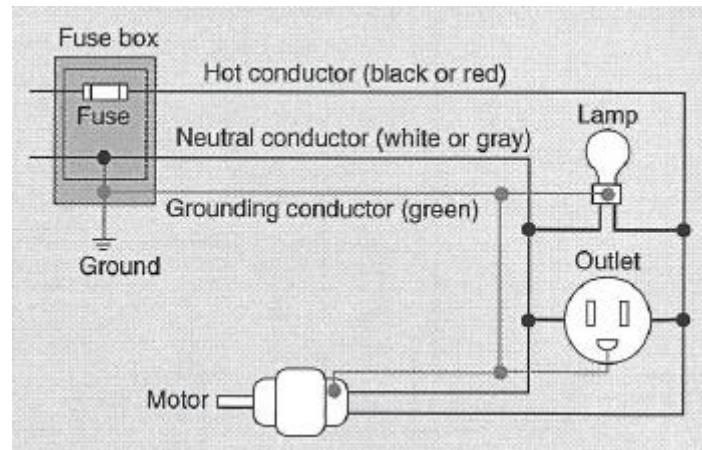

Figure 1.1: Grounded Electric Circuit
- 1-5 Electricity flows through a conducting path in much the same way that water flows through a pipe. This path is called a *circuit*. *Current* is the amount of charge carried by the electrons flowing past a given point in a given time. Energy is required to move the charge through a conductor. The energy that moves the charge comes from a generator or battery. The source does not produce any electrons. It only supplies the energy to move the electrons that are present much the same as pressure supplies the energy in a piping system. As the electrons move through a conductor, they encounter resistance and lose energy. The loss in energy, per unit of charge, is measured in *volts* (V).
- 1-6 In a simple electric circuit, electricity is delivered to a lamp or other device through a wire, often called the *hot wire*, and leaves through a wire that is connected to the ground. These two wires complete the circuit. A third wire, called a *grounding conductor*, connects the metal housing of the device to the ground to prevent it from being energized. Electrical wires are coded by standard colors of their insulation. A hot wire is either black or red. A neutral wire is white or gray. The grounding wire is green or green with a yellow stripe. Figure 1.1 shows these wire colors in a simple circuit.